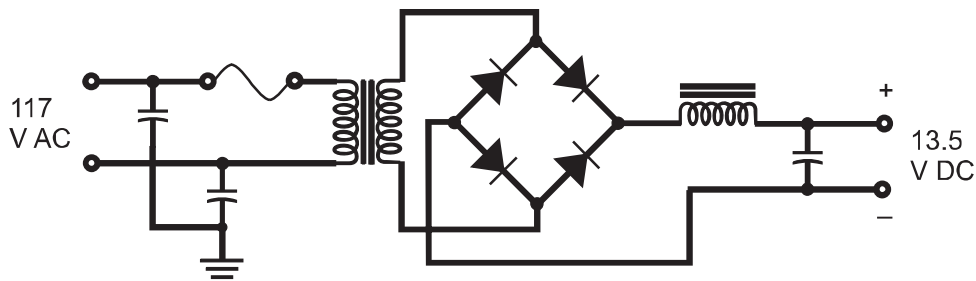

Fig. Test1-3. Illustration for Part One Test Questions 27 through 30.
27. What is the circuit shown in Fig. Test1-3?
28. What are the functions of the capacitors to the left of the transformer in Fig. Test1-3?
29. What is the function of the capacitor at the far right in Fig. Test1-3?
30. What would happen if the coil to the right of the diodes in Fig. Test1-3 were to short out?